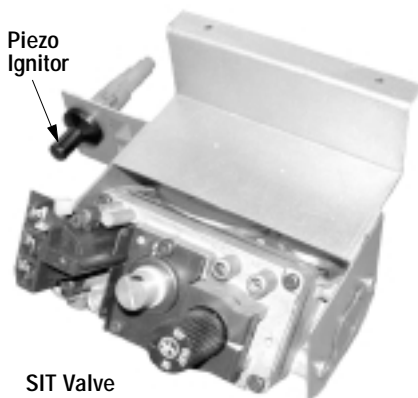

Figure 18
**Step 9. Checking the System** – With gas line installed run initial system checkout before closing up the front of the unit. Follow the pilot lighting instructions provided in the Homeowner's Care and Operation Instructions. For piezo ignitor location see Figure 18 (millivolt appliances only).